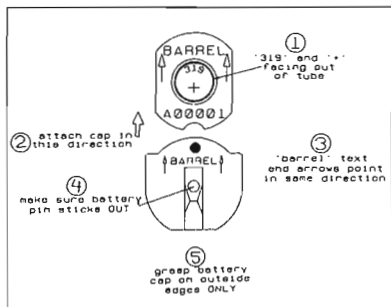

Figure 4
- Insert one (1) new LaserMax LMS-319 battery pack into the battery compartment with the flat side (+) facing out. Refer to FIGURE 4 when placing the battery cap onto the tube.